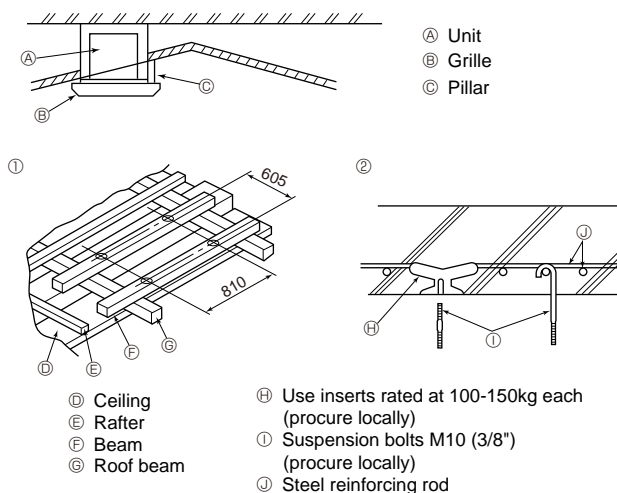

Fig. 2-4
- (G) 14-ø2.8 burring hole
- (H) ø150 cut out hole
- (I) ø175 burring hole pitch
- (J) Fresh air intake hole diagram
- (K) 3-ø2.8 burring hole
- (L) ø125 burring hole pitch
- (M) ø100 cut out hole
- (N) Ceiling
- (O) Detailed figure of removing the insulator
- (P) Insulator
2.4. Suspension structure (Give site of suspension strong structure) (Fig. 2-4)
① Wooden structures
② Ferro-concrete structures